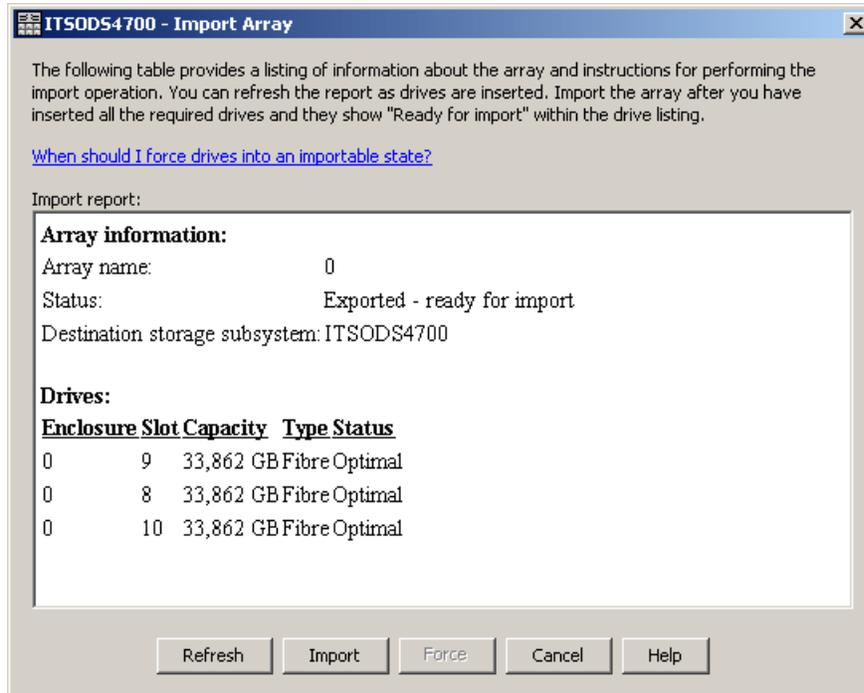

Figure 12-41 Import Array dialog
2. Confirm by clicking **OK** only if you are sure that all the drives making up the array are the ones that you really want to import (and that they were already correctly exported and removed from the source DS4000). The Import Array dialog window is displayed, as shown in Figure 12-41.